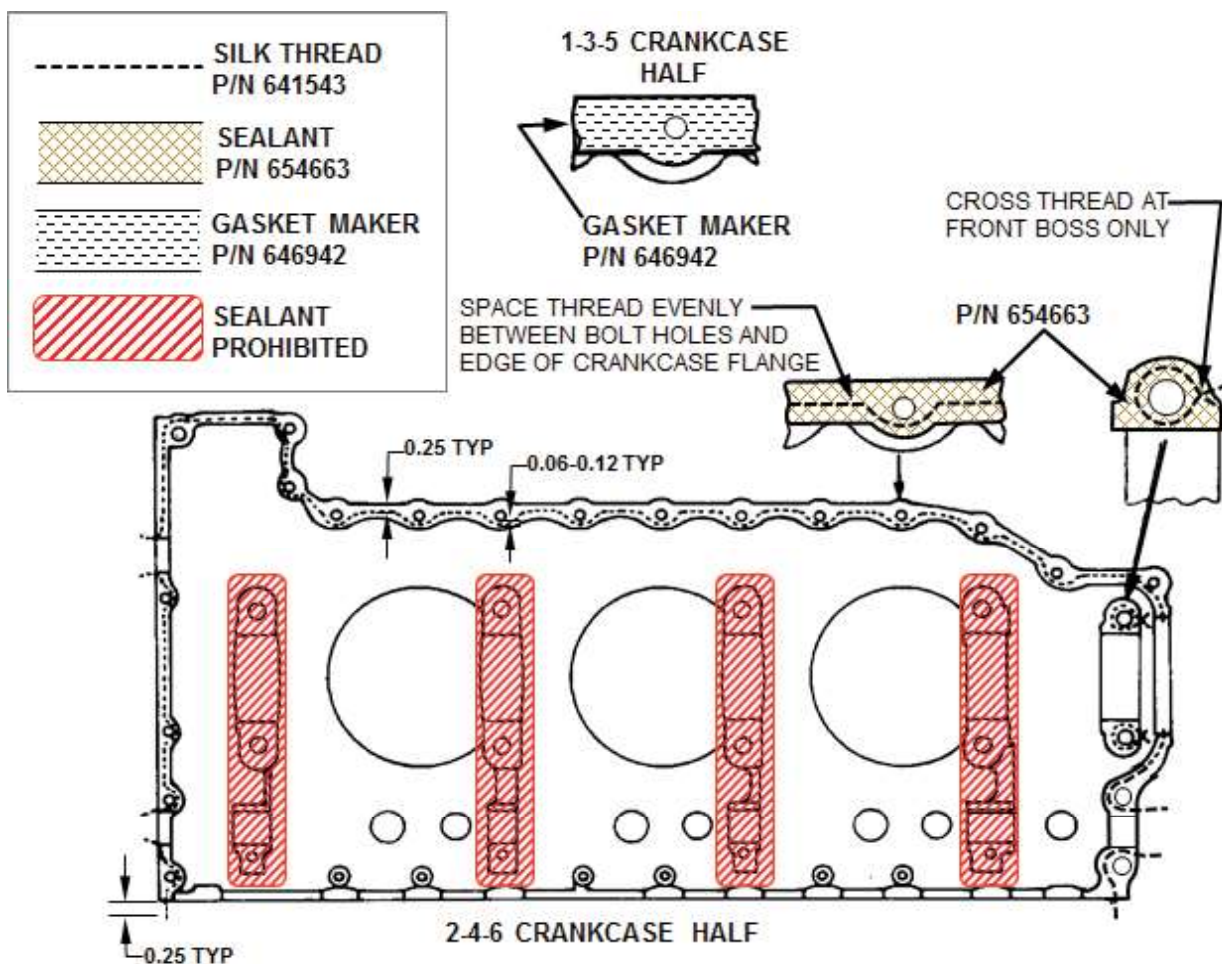

Figure 17-1. Crankcase Sealant and Threading
4. Apply Part No. 654663 and silk thread as illustrated in Figure 17-1. Do not apply Part No. 654663 gasket sealant to the crankshaft nose seal area. Apply Part No. 654663 gasket sealant to the 2-4-6 case half only in areas where thread is shown. Apply an even thin coat of Part No. 654663 gasket sealant using short light brush strokes. Part No. 654663 gasket sealant should be viscous enough for brush marks to disappear. If not, use a new container of Part No. 654663 gasket sealant.
7. Apply grade D silk thread on the 2-4-6 case half only as shown in Figure 17-1. Ensure the free ends of the thread are covered by gaskets except at the nose oil seal.